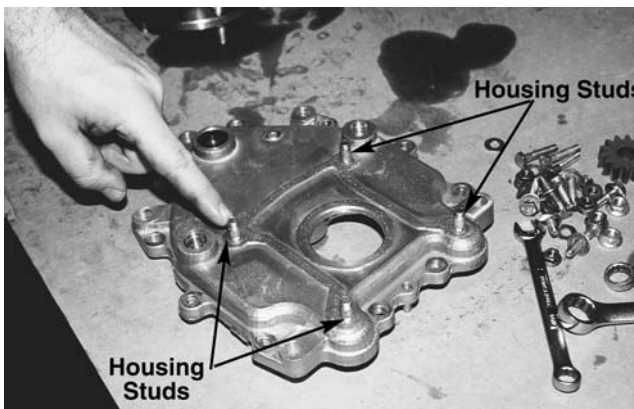

Figure 10-68.
28. Before installing the smaller housing inspect the four studs and make sure they are in place and not loose in the housing. See Figure 10-68.